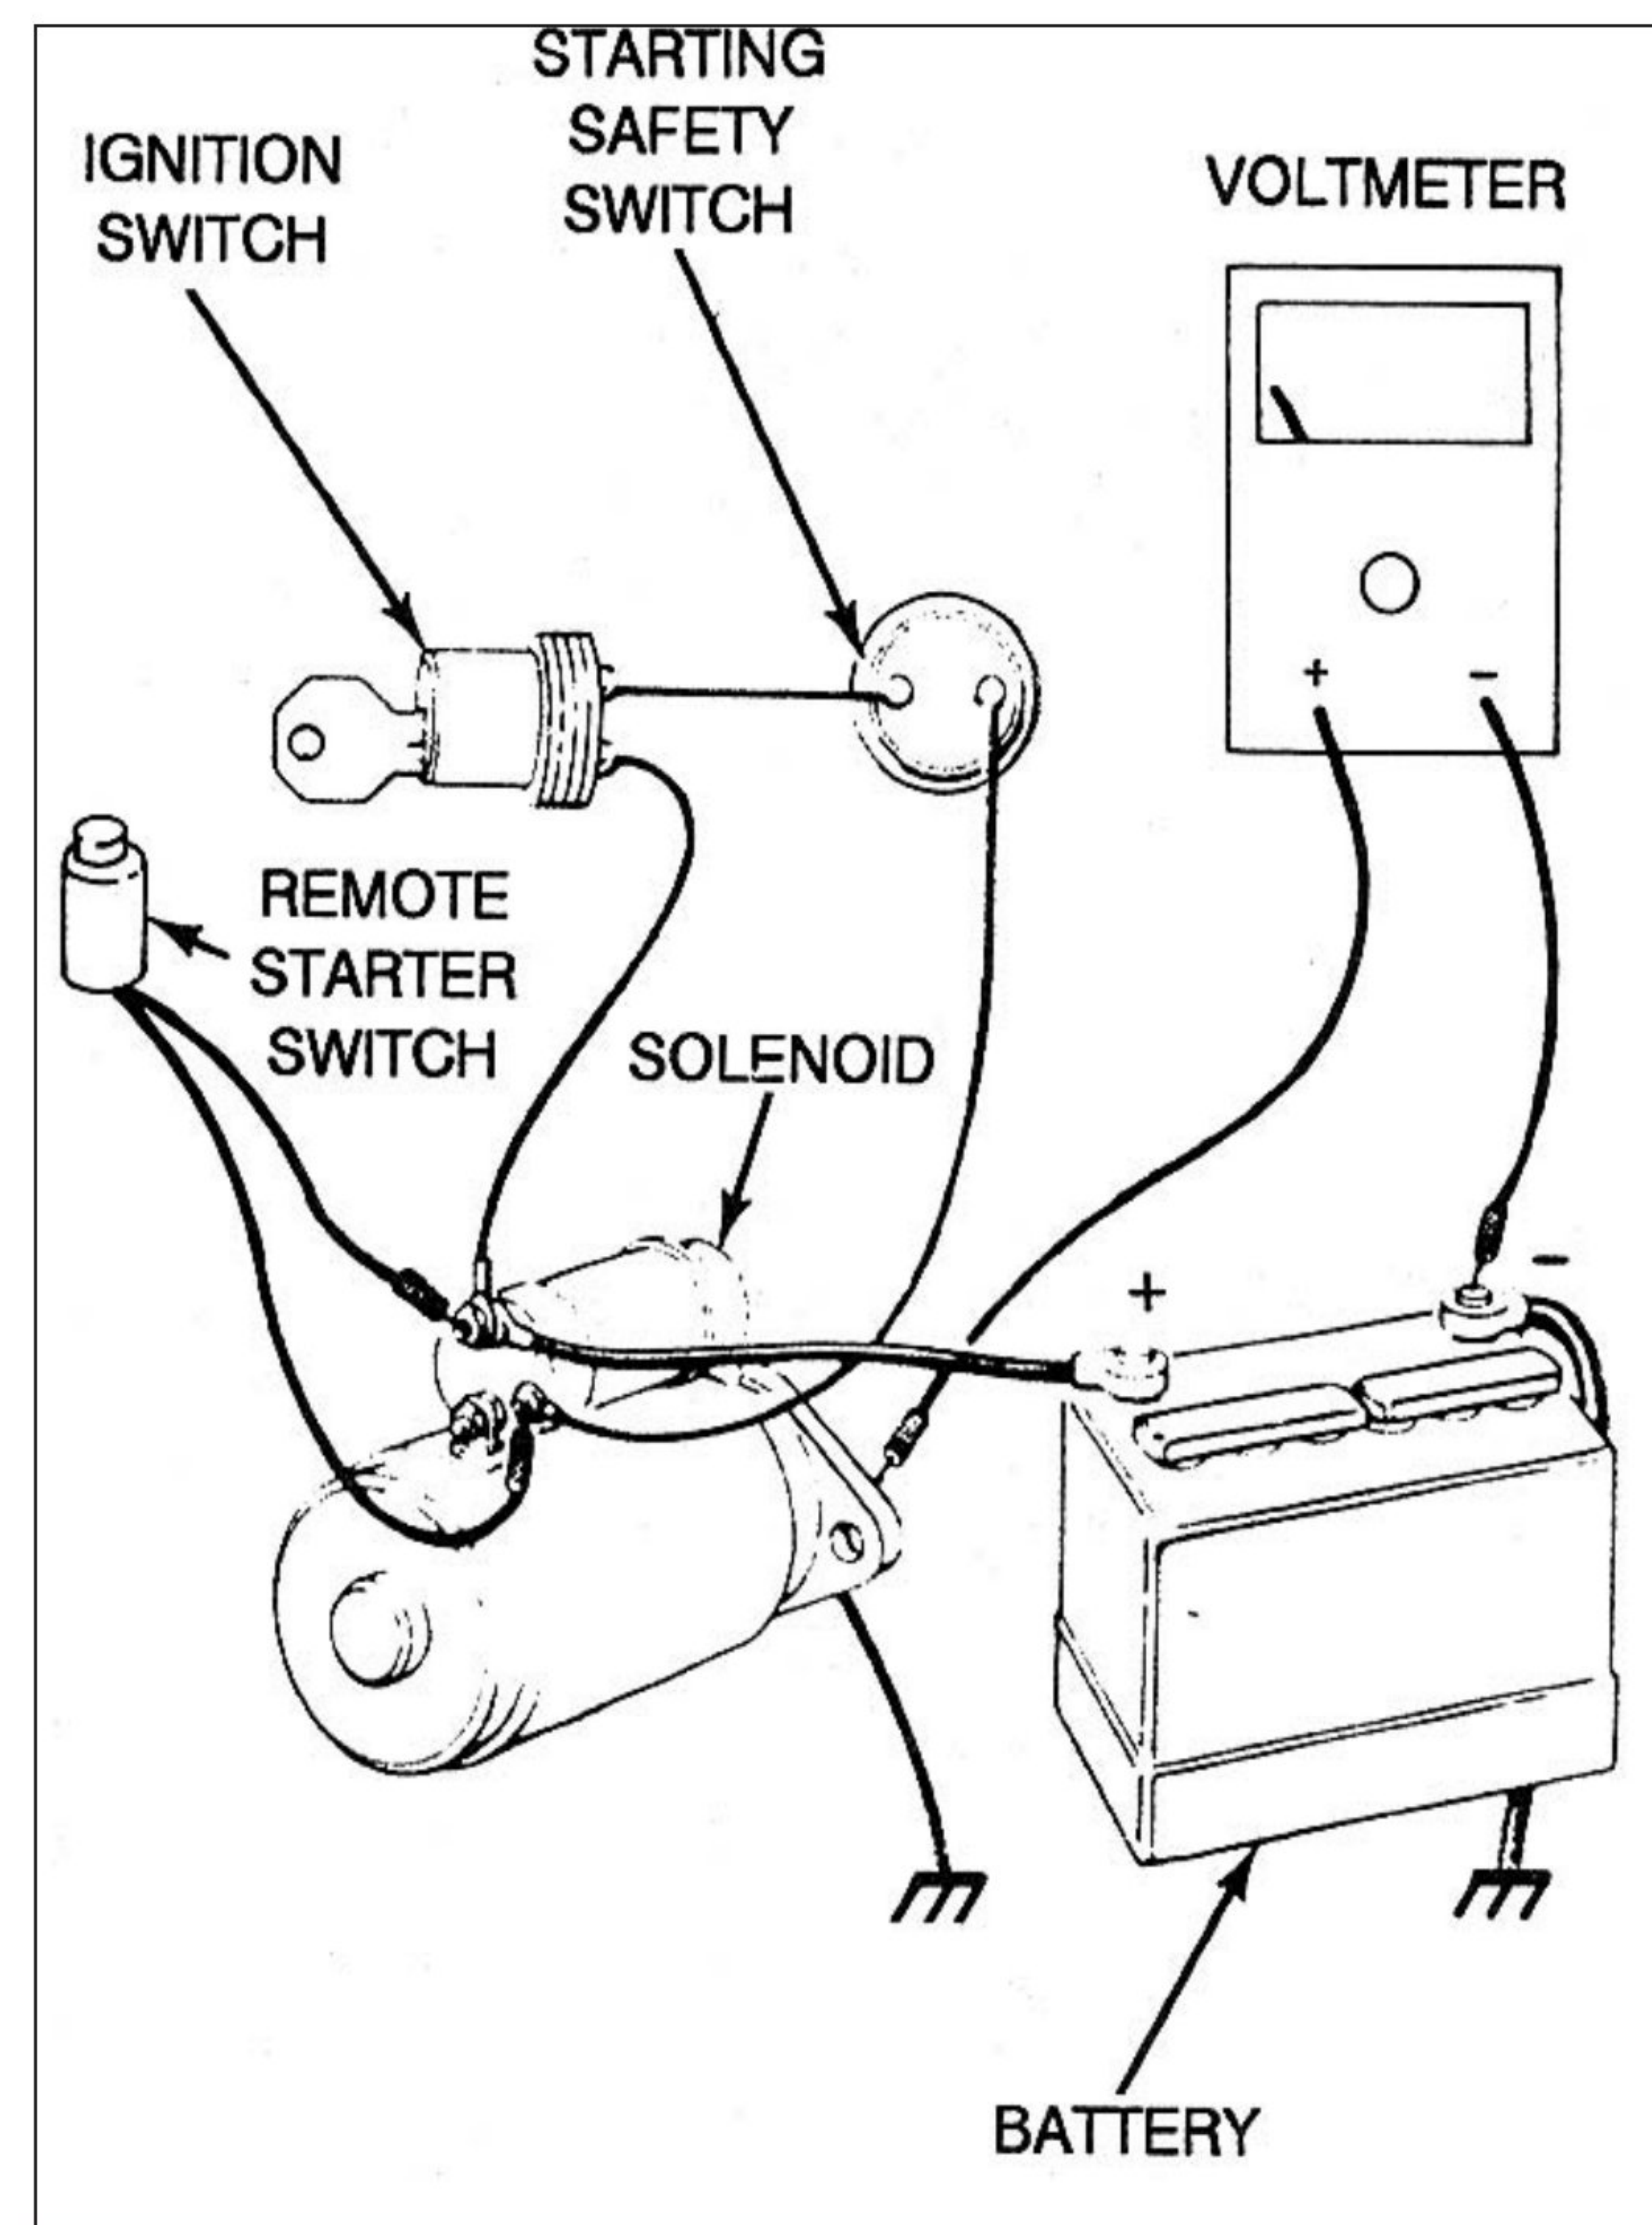

Figure 1-31 — Checking Ground Circuit
in the starter high current circuit. Circuit resistance is checked using a digital voltmeter while the starter is operated (Figures 1-31 and 1-32).
NOTE: The engine must not start during the cranking system test. To avoid engine starting, use a remote starter switch to operate the starter (Figures 1-31 and 1-32). Use a digital voltmeter capable of displaying readings less than 1 volt.
1. Connect the voltmeter between the starter housing and the battery ground (Figure 1-31).